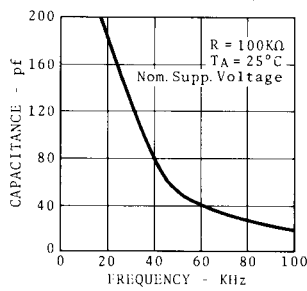

Fig. 6
** R2(100K Ω), C2(50pf) provide 50KHz clock frequency (see figure 6)